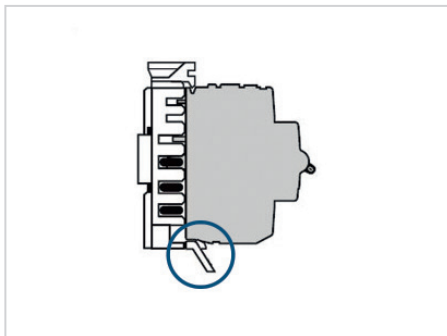

Fig.19: Plug-in position of the fixing clip
- The position shall be in the upper position as in Fig.19